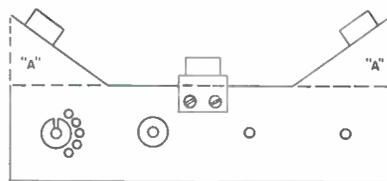
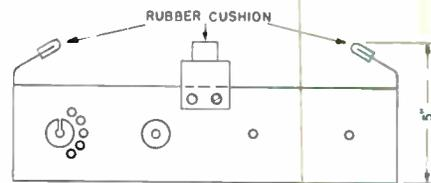

Fig. 2A. Front portion of the General Electric Model 12C101 chassis showing the front area which must be removed to accommodate a larger size picture tube.
Fig. 2B. Showing the vertical side portion of the chassis which was bent to provide support for the 16KP4-A picture tube.
4. The front section of the chassis on which the 12KP4-A picture tube rested was removed by first removing the controls and then the self-tapping screws on each side. The filter choke and audio output transformer were also removed. The triangular sections of the front marked "A" in Fig. 2A were removed by cutting along the dotted lines with a hack saw. The sides were bent over as shown in Fig. 2B and a piece of one-inch wide rubber cushion was cemented over the ends. The bottom of the picture tube should be five inches above the bottom as indicated in Fig. 2B.